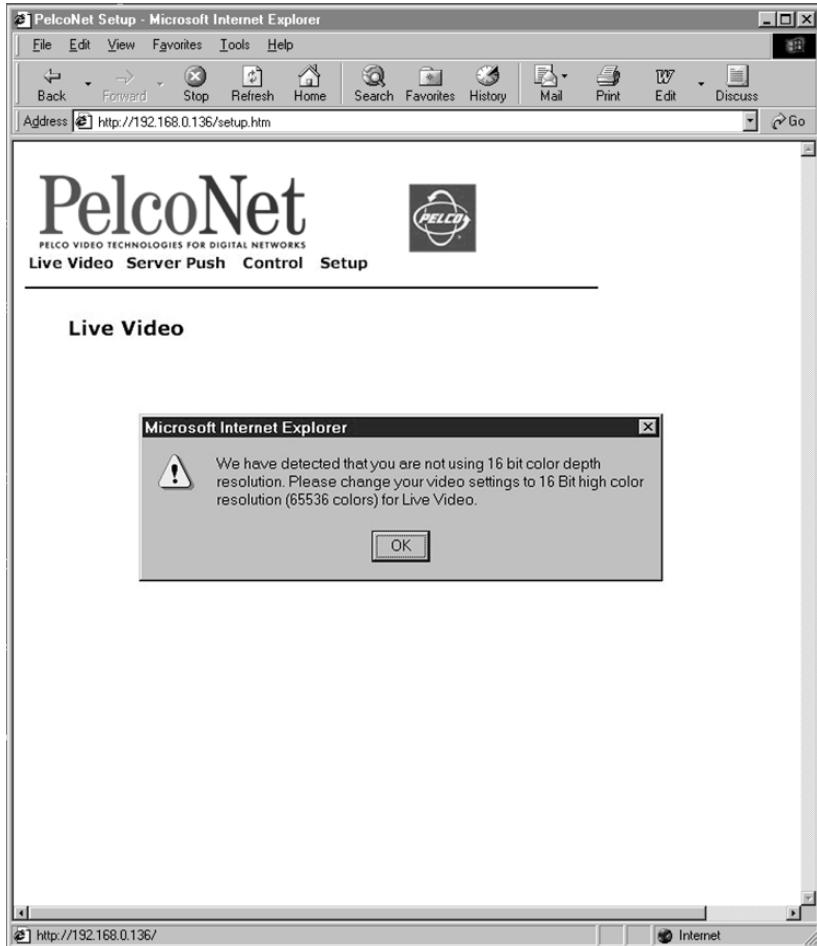

Figure 33. Color Setting Dialog Box
- When your computer display is not set for 16-bit color (Figure 33). (To change: double-click on **My Computer**, **Control Panel**, **Display**, the **Settings** tab, and select **High Color [16 bit]**. For NT, select **65536 Colors**.)